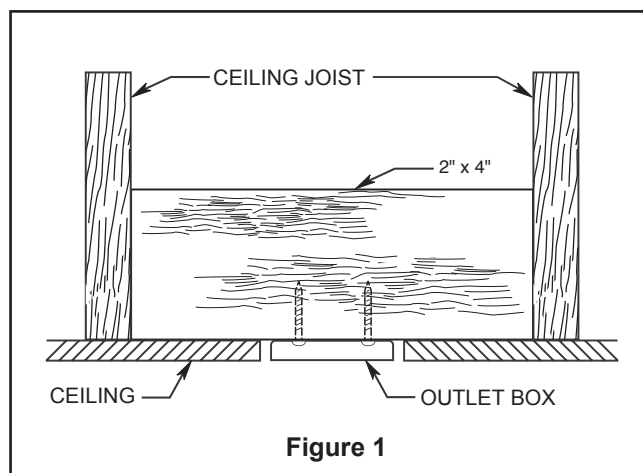
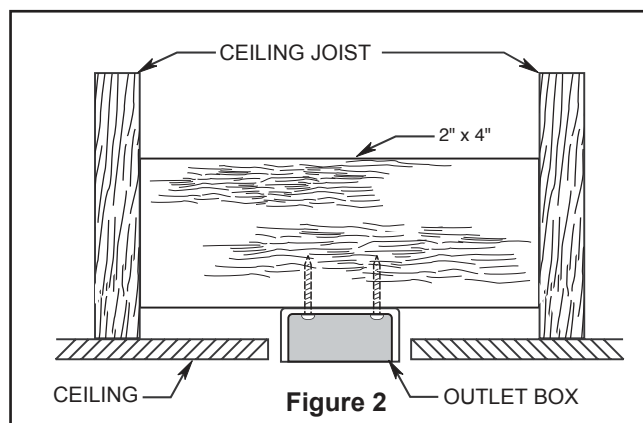
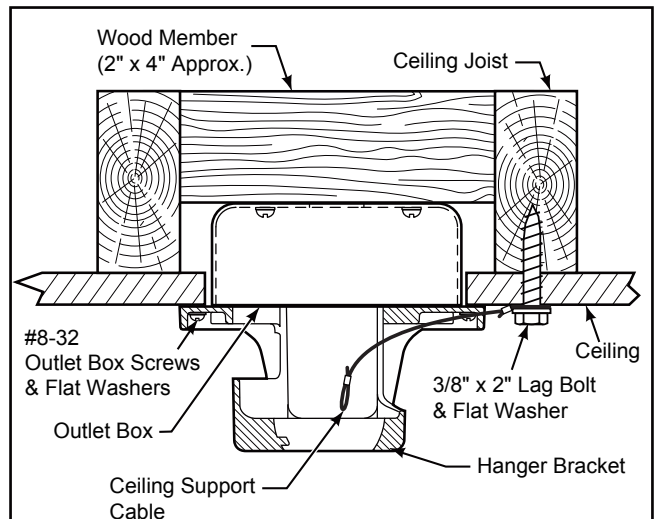

Figure 1
Figure 2
Figure 3
Your new ceiling fan will require a grounded electrical supply line of 120 volts AC, 60 HZ, 15 Amp Circuit. Electrical code requires use of a fan-rated outlet box to support the extra weight and motion associated with a ceiling fan. A fan-rated box will be labeled as such and typically supports up to a 70lb ceiling fan. Fan-Rated Outlet Boxes vary in ratings and design. Ensure the ratings of your ceiling fan outlet box meet the requirements for the ceiling fan being installed. Figure 1, Figure 2 and Figure 3 depicts different structural configurations that may be used for mounting the outlet box.
Low profile box (Figure 1)
Deep box (Figure 2)
Deep box with brace (Figure 3)
3. Loosen the two set screws in the downrod support of the motor assembly. Route the brown, blue, red, gray, yellow wires and safety cable through the downrod. (Figure 3)
1. Securely attach the hanger bracket to the outlet box using the #8-32 outlet box screws and washers supplied with the fan. (Figure 3)
2. Drill a 1/4" pilot hole into the building structure to prevent splitting or cracking with installation of the lag bolt. Using the 3/8" x 2" lag bolt and flat washer, attach safety cable to ceiling joist or wood structural member. The lag bolt will pass through the flat washer, safety cable loop, and into the building structure. (Figure 3)
NOTE: Ceiling support cable cannot be secured to outlet box only, it must be directly secured to ceiling joist or structural member using the 3/8" x 2" lag bolt and flat washer. (Figure 3)
2. Slide the receiver into the hanger bracket before wiring as shown in figure 3.